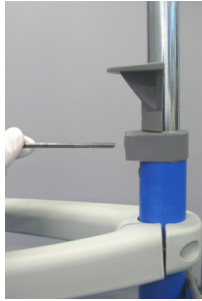

Figure 5a
- 4a. Tighten the **KNOB REPLACEMENT SCREW** with the tool provided without extra leverage as per **Figure 5a**.